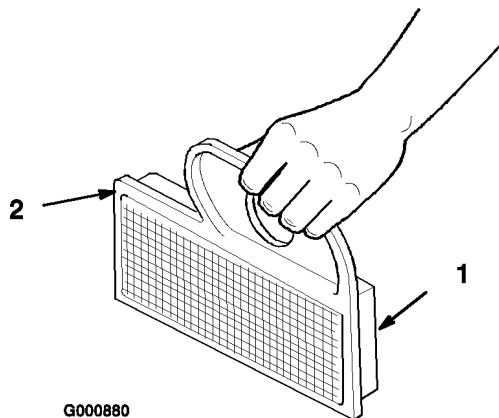

Figure 22
- A. Lightly tap the element on a flat surface to remove dust and dirt (Figure 22).